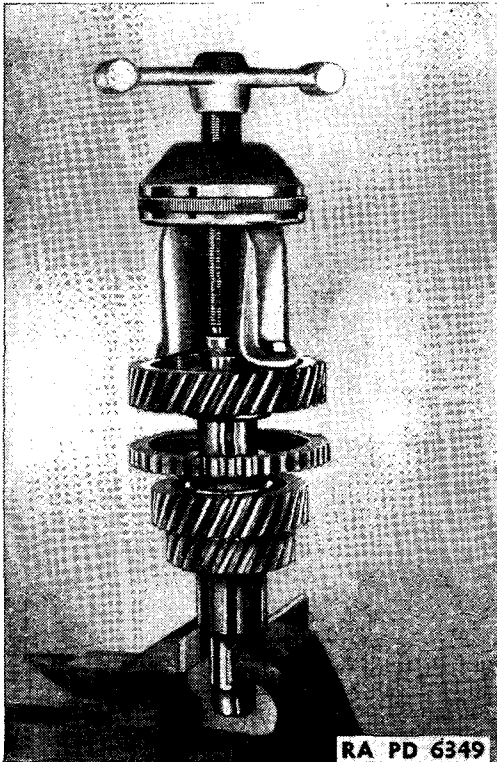

FIGURE 107.—Pulling transmission countershaft drive gear.
(2) Disassemble countershaft—bolt type universal puller, two $\frac{1}{2}$ -20NF bolts, hammer, press, screw driver, pliers. Slide front bearing washer (A214822) off shaft (fig. 104). Remove countershaft drive gear snap ring (A214792). Set countershaft in vise with drive gear up. Mount universal puller on drive gear (B184259) using two bolts, and remove gear (fig. 107). If puller does not completely remove gear from shaft, pull gear off far enough to enable it to be set up in a press to complete removal. Remove Woodruff keys